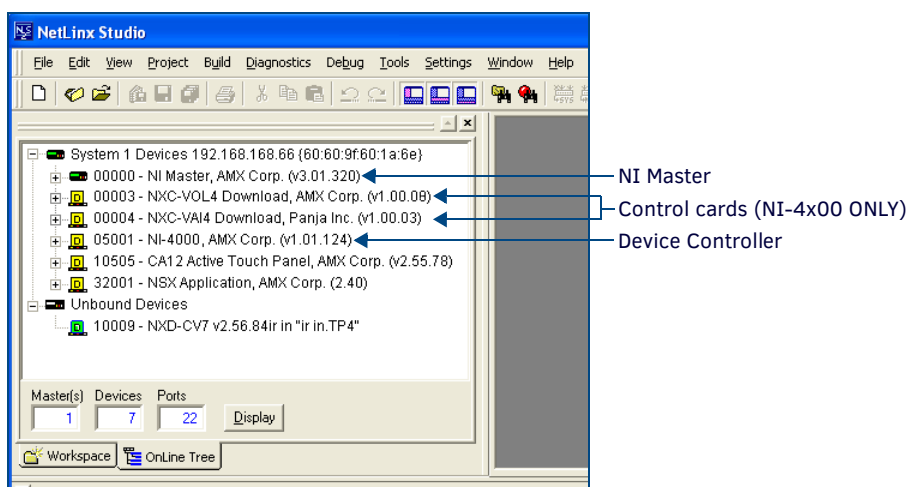

FIG. 30 Sample NetLinx Workspace window (showing OnLine Tree tab)
2. After NetLinX Studio has established a connection to the target Master, click the **OnLine Tree** tab of the Workspace window to view the devices on the System. *The default System value is one (1).*
4. After the Communication Verification dialog window verifies active communication between the PC and the NI unit, verify the NetLinX NXC Control Cards appear in the **OnLine Tree** tab of the Workspace window (FIG. 30).